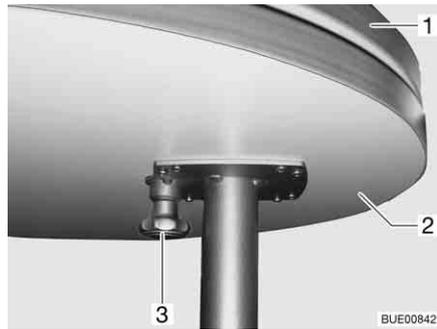
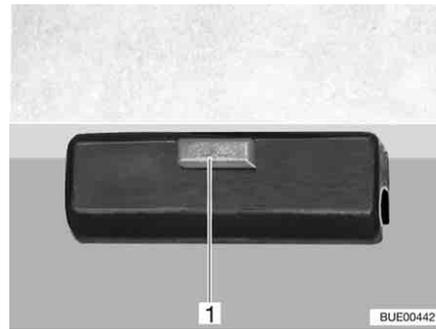

Fig. 99 Swing-out table extension
Fig. 100 Lock
- Pull the knob (Fig. 99,3) of the lock down and swing out the table extension (Fig. 99,2).
- Swing the table extension (Fig. 99,2) under the table-top (Fig. 99,1) until the lock latches (Fig. 100,1) in place audibly.
- Release the lock (Fig. 100,1) on the table top.